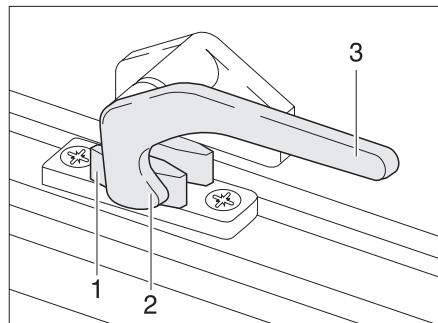
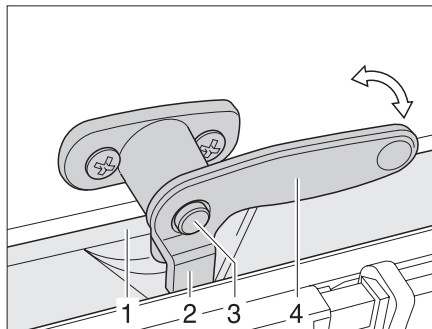

Fig. 28 Catch lever in "closed" position
Fig. 29 Catch lever with safety knob in "closed" position
- ▶ If it exists, press the safety knob (Fig. 29,3) down and hold it.
- ▶ Turn the catch lever (Fig. 28,3 or Fig. 29,4) a quarter turn towards the centre of the window.
- ▶ Turn the catch lever (Fig. 28,3 or Fig. 29,4) a quarter turn towards the centre of the window frame. The locking catch (Fig. 28,2 or Fig. 29,2) is located on the inside of the window catch (Fig. 28,1 or Fig. 29,1).
- "Firmly closed" (Fig. 28)